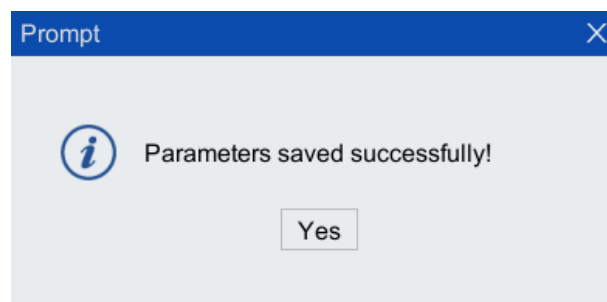

Figure 6-8 Save successful prompt box
Step8. Click <Yes> in the pop-up parameter save success dialog box. As shown in Figure 6-8.